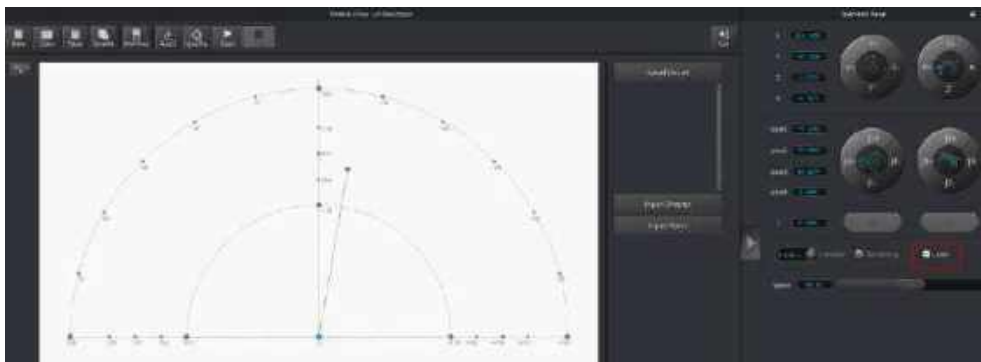

Figure 5.67 Turn on the laser
Step 2 Click  to display the **Operation Panel**, and then select **Laser** to turn on the laser, as shown in Figure 5.67. In this case, the laser gives out a laser beam.